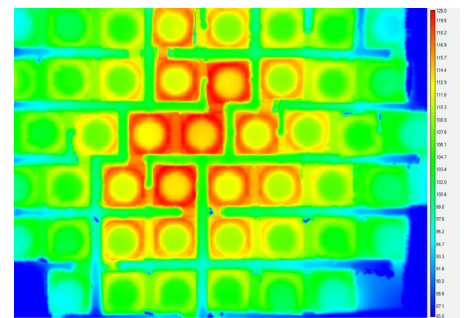

Figure 9: Thermal image
Thermal imaging, as shown in Figure 9, may help visualize and quantify the thermal gradient. In the image in Figure 9, the edge Tsp is 91 °C and the center Tsp is 106 °C. Cree LED recommends using a thermocouple to measure the edge Tsp and correlating the infrared (IR) image to the known measured point, since IR imaging is relative to the emissivity setting of the camera setup.